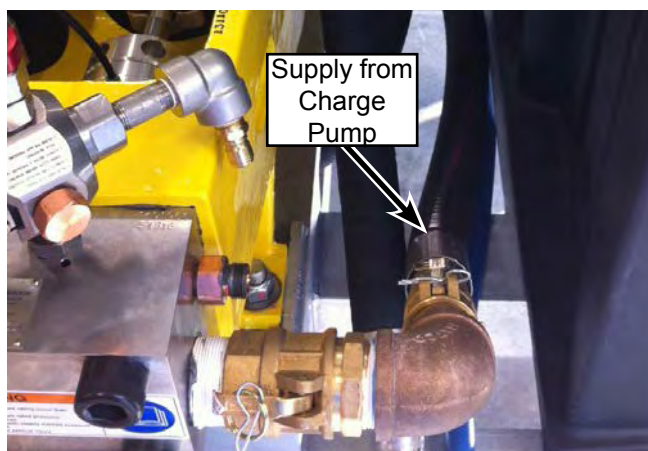

Figure 47: Remove Supply Hose
1. Remove the supply hose (Figure 47) (supply from charge pump) from the suction elbow fitting on the 15K/20K manifold.